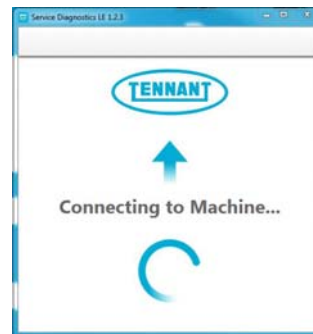

Fig. 4
4. The application software will then connect to the machine (Figure 4). If the application remains on the "Connecting to Machine..." screen for an extended period, recycle key or close and restart the application software. If it still fails to connect, restart the computer.